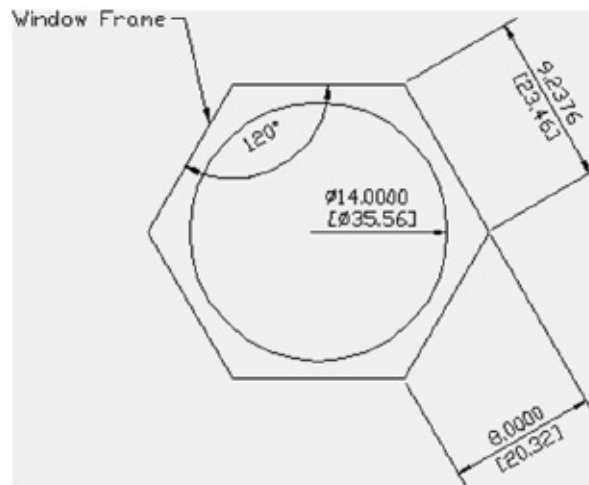

FIGURE 11.37 The leader with a note added
5. Enter **Window Frame** for the note, and then click Close Text Editor in the Text Editor tab's Close panel. Your note appears with the leader arrow similar to the one shown in Figure 11.37.